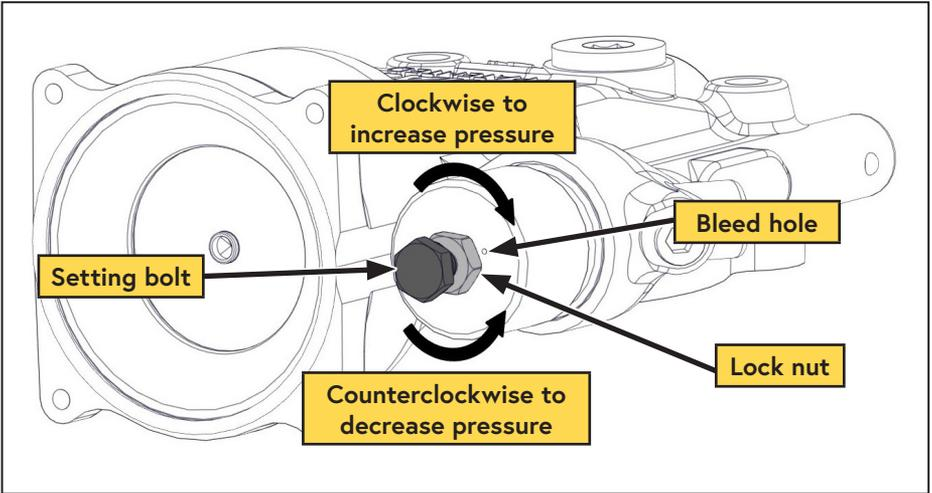

Figure 4 — Adjusting the pressure regulator
- Rotate the setting bolt clockwise to increase pressure, rotate the setting bolt counterclockwise to decrease pressure (Figure 4).